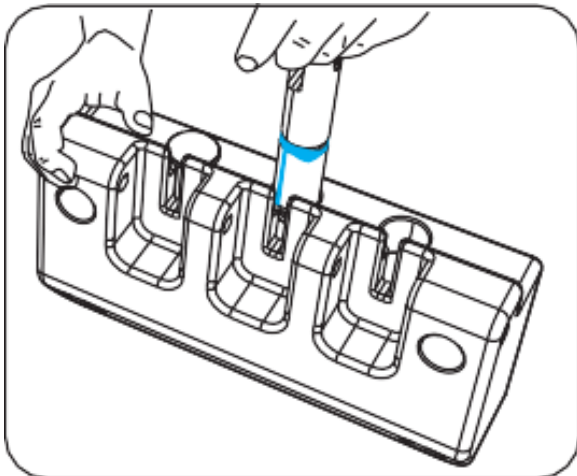

Figure 62
6. Pull out each draw valve (Figure 62) from the freezer door and clean them thoroughly with a brush. Do not switch the center draw valve with either the left or right draw valves.